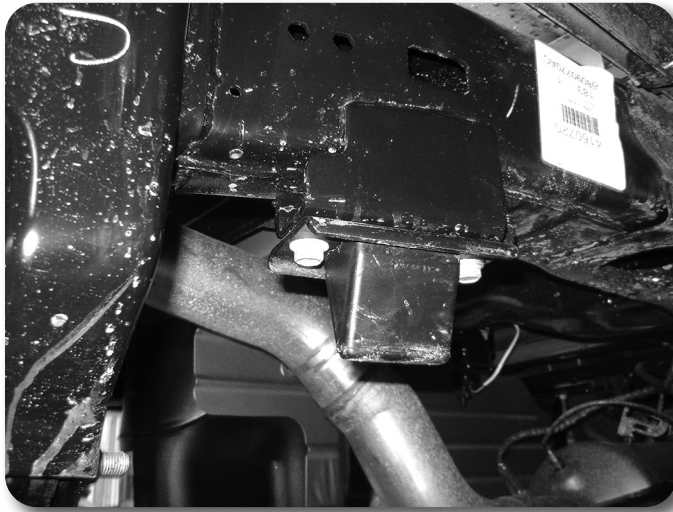

Figure 9A
16. Remove the factory bump stops. Install bump stop drop brackets with new 10mm hardware (BP 497). Install so the small holes are to the inside of the vehicle. Tighten to 35 ft-lbs. Fig 9a, 9b